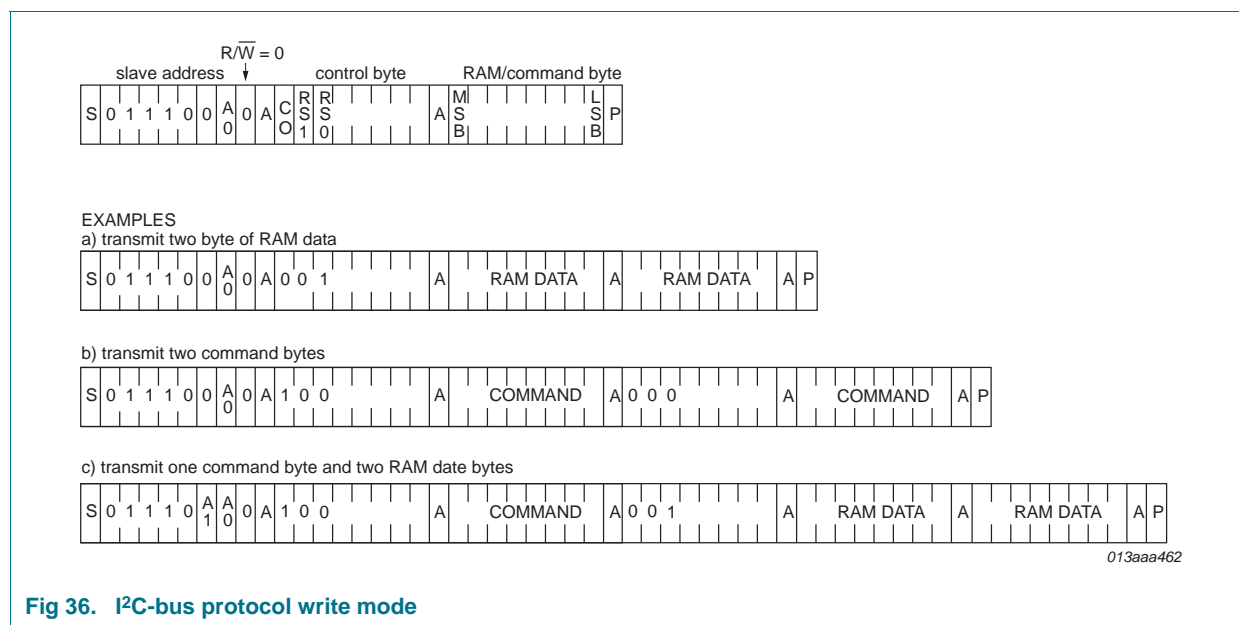

Fig 36. I²C-bus protocol write mode
The I²C-bus protocol is shown in Figure 36. The sequence is initiated with a START condition (S) from the I²C-bus master which is followed by one of the two PCF8536 slave addresses available. All PCF8536 with the corresponding A0 level acknowledge in parallel to the slave address, but any PCF8536 with the alternative A0 level ignore the whole I²C-bus transfer.